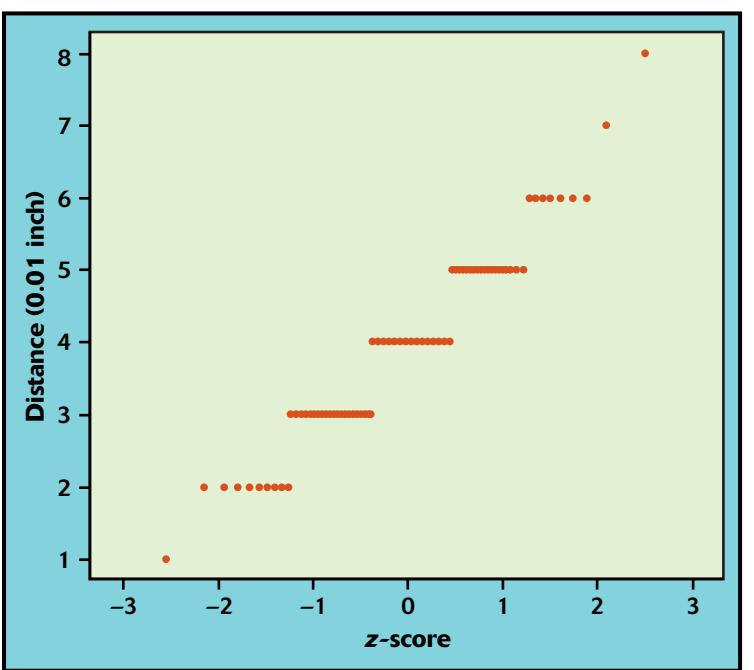

FIGURE 1.30 Normal quantile plot of the distances between two mounting holes on 27 electric meters, for Exercise 1.70.
- 1.70 Manufacturers measure dimensions of their products to monitor the performance of production processes. A maker of electric meters measures the distance between two mounting holes on 27 consecutive meters after the holes are formed in production.²⁰ Figure 1.30 is a Normal quantile plot of these distances. The measurements are in hundredths of an inch. The large-scale pattern is quite Normal, but the measurements deviate from Normality in an interesting way. What explains the horizontal runs of points in the plot?